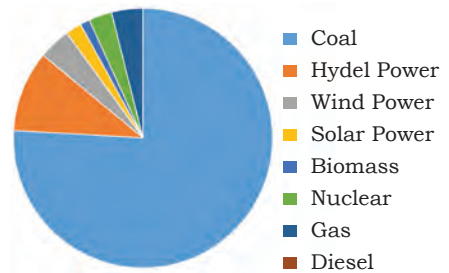
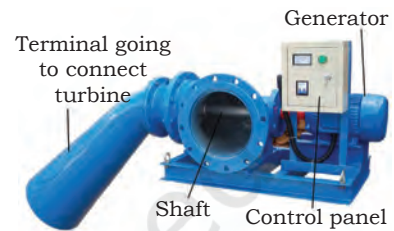

Fig. 1.4: Energy consumption in electric power generation
Fig.1.5: Micro-hydro power utilities
India's electricity sector is dominated by fossil fuel. For example, in 2017-18, coal produced about three fourth ($\frac{3}{4}$ th) of the electricity as shown in Fig. 1.4. There are several other sources used to produce power. For example, coal, oil and uranium fuels are used to convert water into steam to drive a turbine. The output shaft of the turbine is connected to an alternating current (AC) generator as shown in Fig. 1.5. The AC generator is rotated by the turbine, which converts mechanical energy into electrical energy.